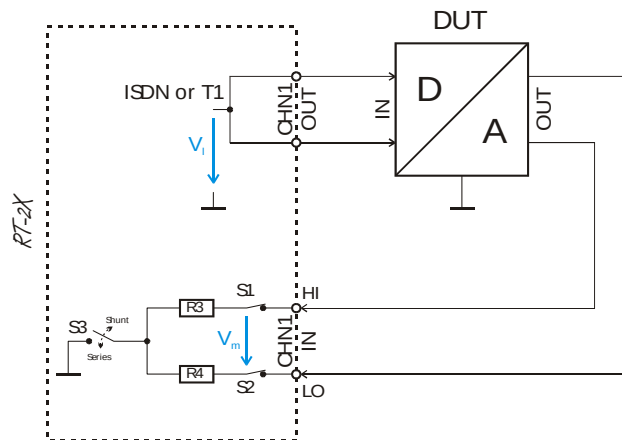

Fig 42 LCTL Measurement of a D-A Device
1. Connect **RT-2X** as shown in **Fig 42**.